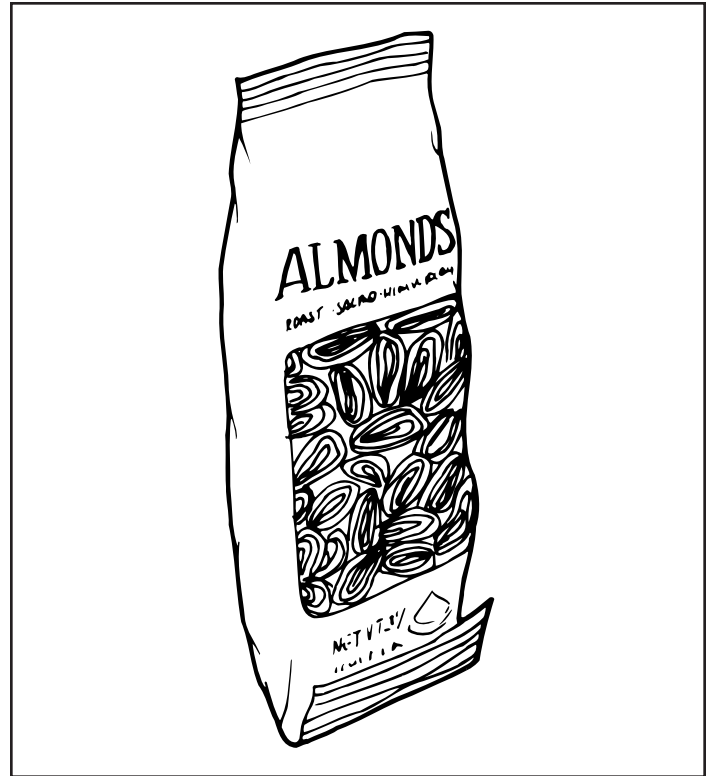

Figure 8: Fold bagged items bottom edge forward and up.
**Bagged or Boxed Items:** In the 10-selection shelves if not loaded properly could be a problem. The sealed edge of the bag may get under the spiral wire causing the product to hang up after it has been vended. It is recommended that the lower edge of these types of product be folded forward and up (see Figure 8) next to the product before inserting into the spiral space. It is also recommended to use an 18 count spiral for bagged items because of the product setting to the bottom of the package.